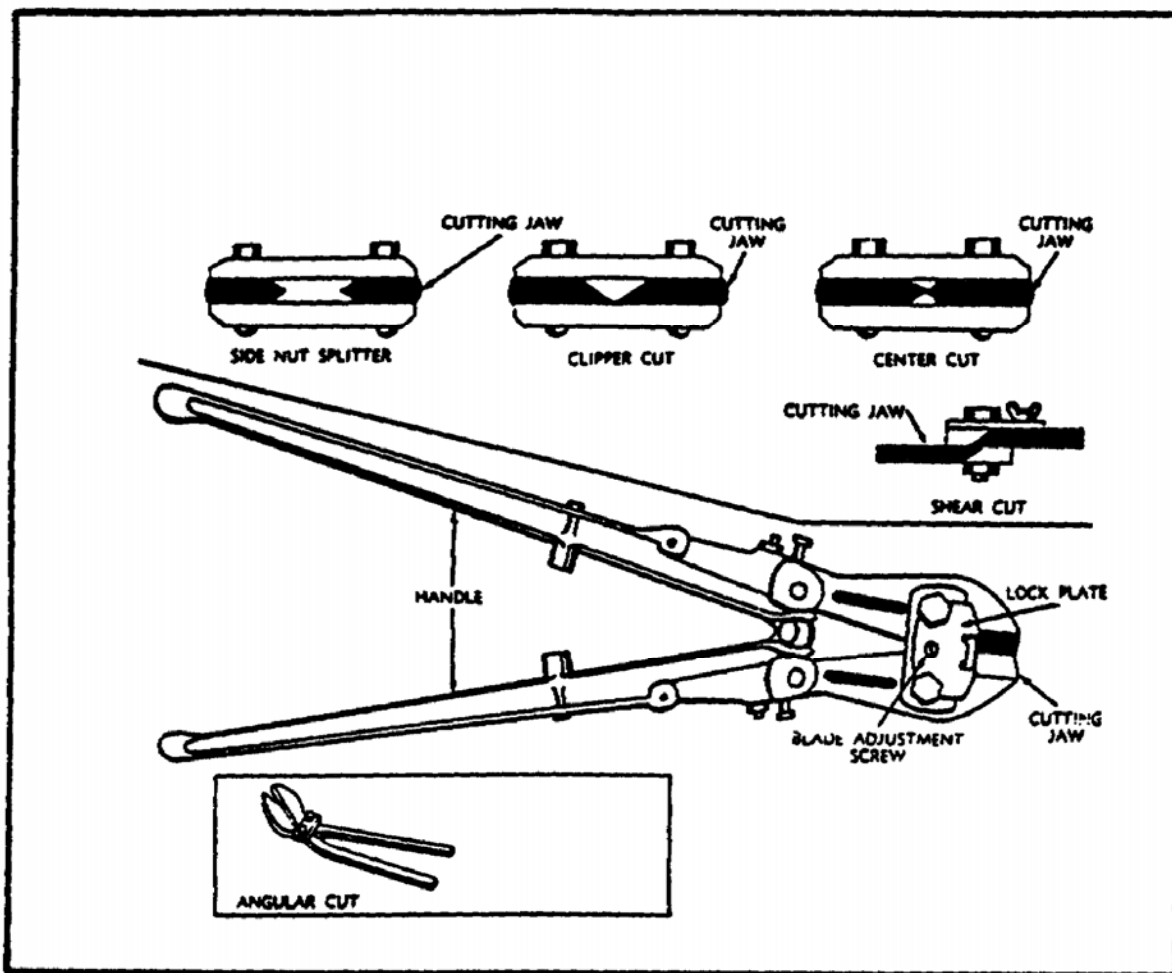
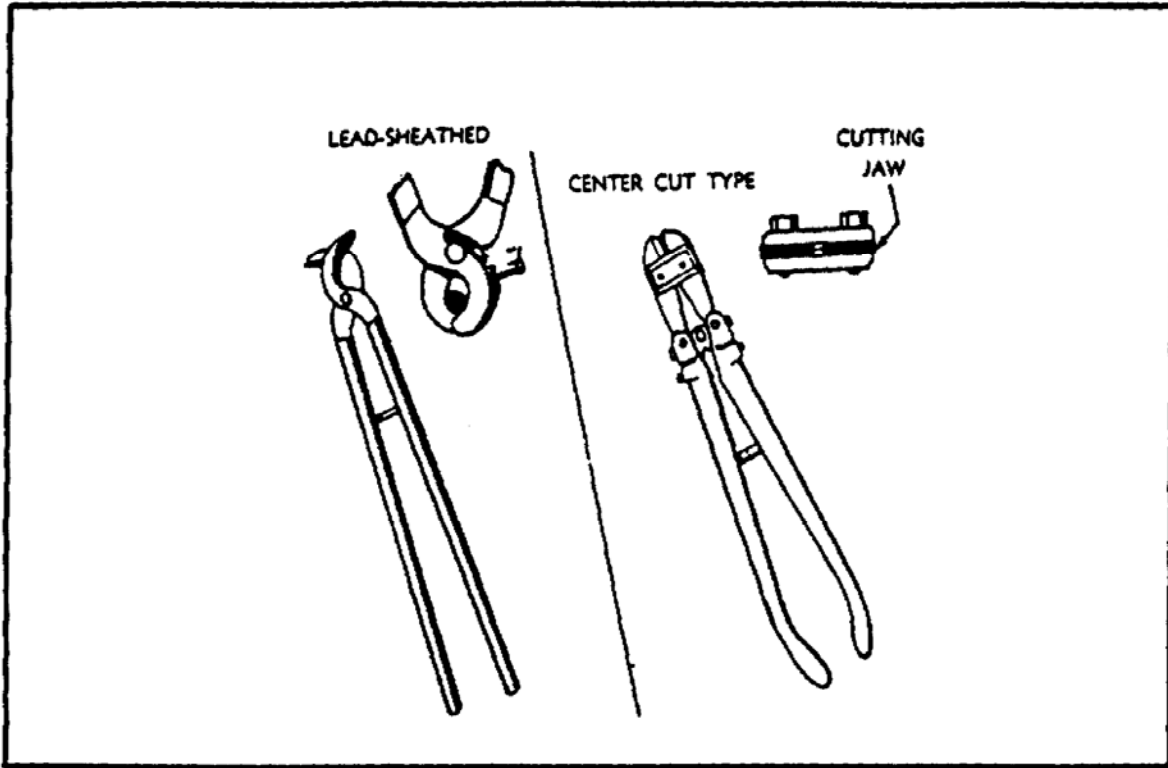
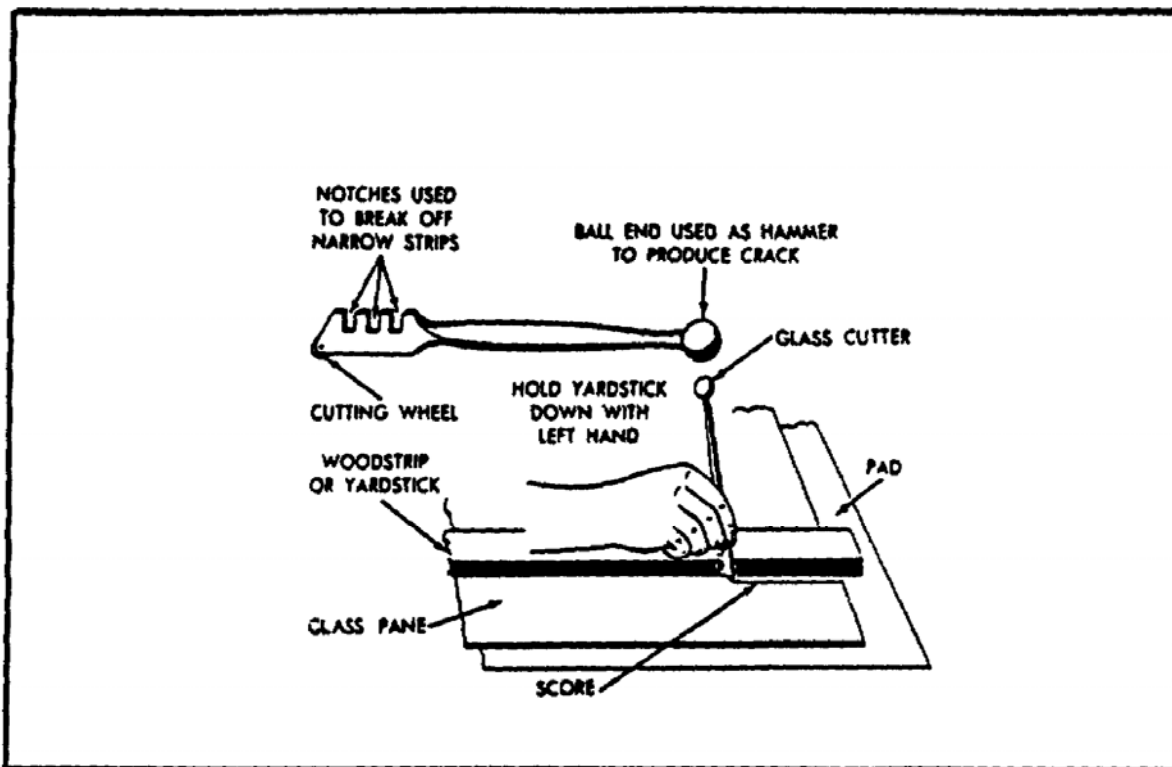

FIGURE 118. TYPES OF BOLT AND NUT CUTTERS.
FIGURE 119. TYPES OF CABLE CUTTERS.
FIGURE 120. USING A GLASS CUTTER.
b. *Types of Cutters.* A bolt clipper or cutter is shaped like a giant shears with short blades and long handles. Different cutting edges are designed for specific applications. Figure 118 illustrates various types of cutting edges. Figure 119 illustrates types of cable cutters. Figure 120 shows the wheel-type glass cutter.